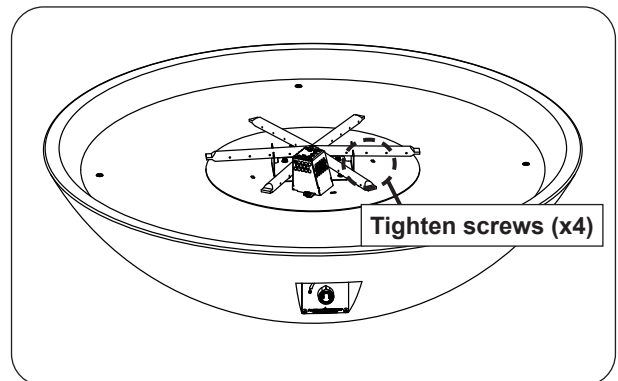

Fig. 30-3 Reinstall burner (if applicable)
2. Use a  $\frac{5}{16}$ " nut driver to fasten the burner to the base (see Fig. 30-3).